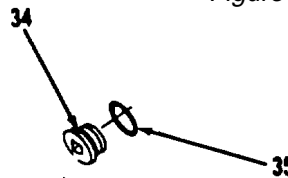

Figure 10-84.
20. Remove items 34 and 35 as an assembly.
21. Remove and discard preformed packing (35) from plug (34, Figure 10-84).